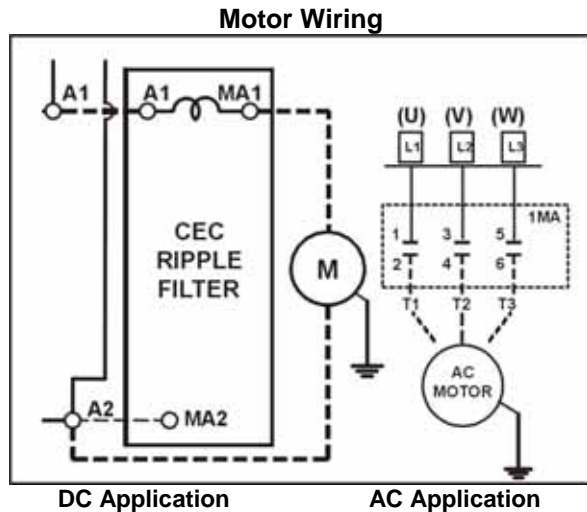

Figure 1-9
- The first is to the motor, and consists of current conductors wired from the drive output through the choke (if required) to the motor and a ground wire to the grounding lug at the drive side of the controller. [See Figure 1-9.]